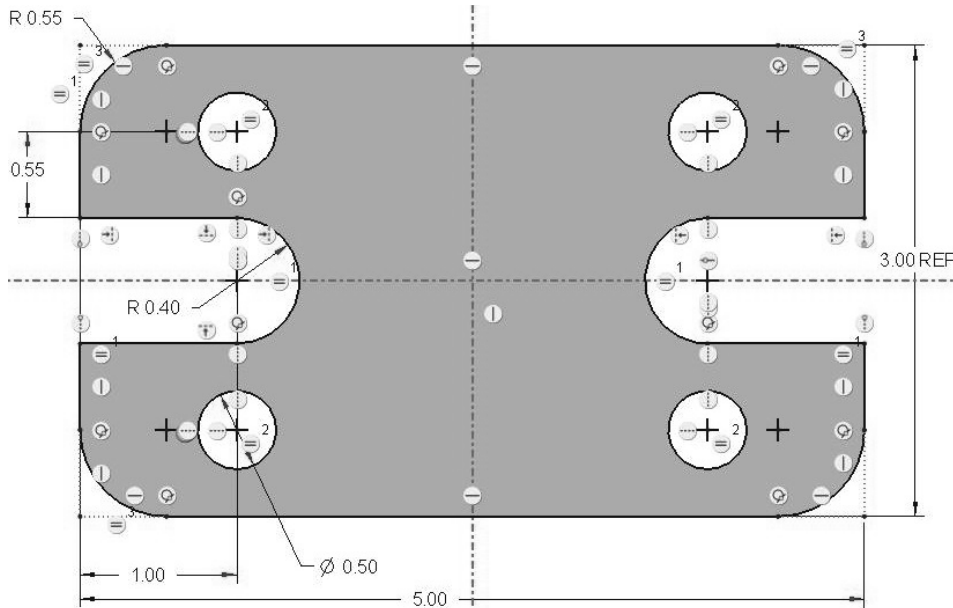

Figure 3-75 Problem 6—Cover Plate
- 3.6 Draw the front view of "cover_plate" (Figure 3-75). Draw the centerlines first. **Design Intent**—The plate is symmetric about its center in both directions. Note that the small holes are aligned with the centers of the two arcs. Why does the 3.00 dimension have the letters REF after it? (>File>Options>Sketcher, change to 2-decimal places before sketching.)